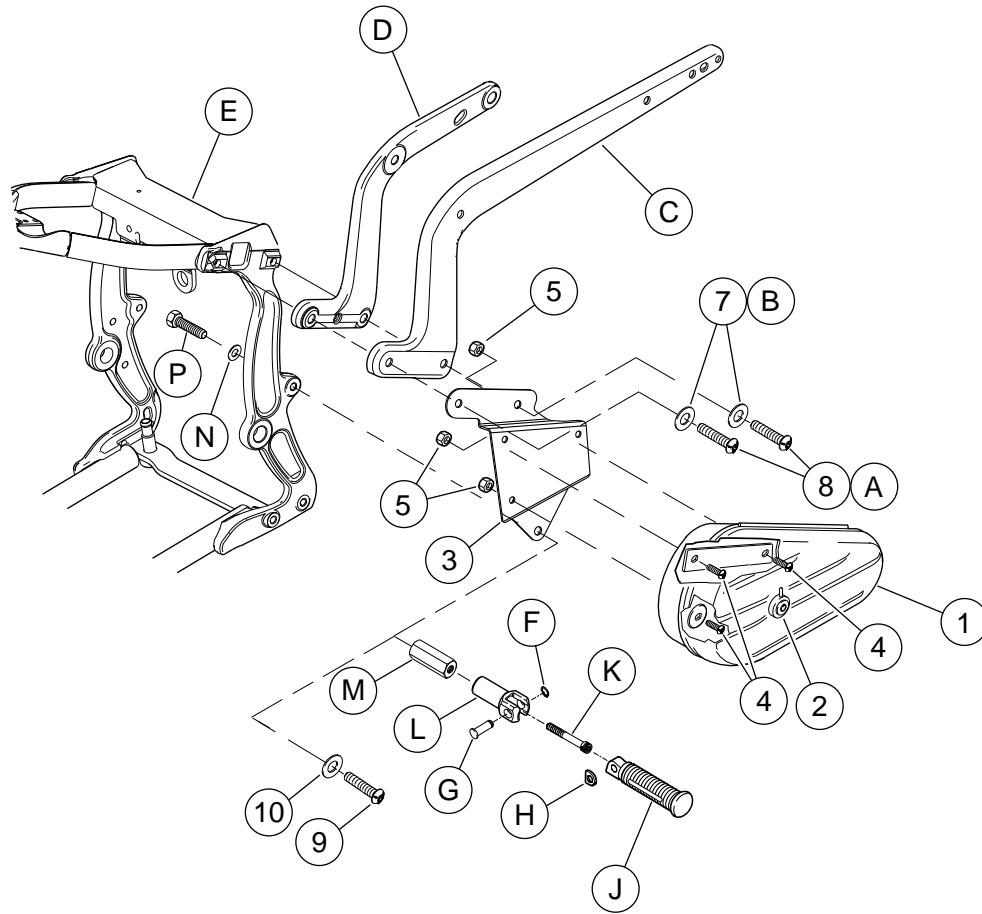

Figure 1. Service Parts: Left Side Toolbox Kit
See Figure 1 and Table 1.
1. See Figure 1. Attach toolbox (1) on toolbox mounting bracket (3) using three pan head screws (4) and locknuts (5).
- a. See Figure 1. Remove screw that secures passenger footboard assembly to frame (E).
- a. See Figure 1. Remove retaining ring (F), clevis pin (G), spring washer (H), and footrest (J).
- b. Remove screw (K) that secures the footrest support (L) to the frame (E).
- a. Remove one of the fender support screws (A) and washers (B). Only remove one screw and washer.
- b. From the kit, install mounting bracket (3), one chrome washer (7) and one chrome screw (8). Hand-tighten screw at this time.
- c. Remove and discard the remaining original screw (A) and washer (B) from the fender support.
- d. Rotate the mounting bracket in-line with the remaining hole and install the chrome washer (7) and chrome screw (8) from the kit. Hand-tighten bolt at this time.
- a. See Figure 1. Install Hex Spacer Kit (49352-00) following instructions included with kit.
- b. Install the footrest support (L) and footrest (J) to the hex spacer (M).
- a. See Figure 1. Install the footboard assembly (Kit 50602-00) to the toolbox mounting bracket (3) in same orientation prior to removal.
- a. See Figure 1. Apply 2 or 3 drops of Loctite 262 to screw (9). Install screw (9) and washer (10) and tighten to 10-15 ft-lbs.
6. Tighten both fender support screws (8) to 30-35 ft-lbs (40.6-47.0 Nm). Loosen one screw and retighten to 38-42 ft-lbs (52.0-57.0 Nm). Repeat for the other screw.